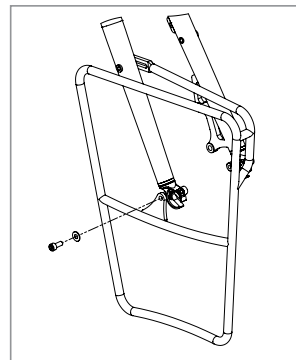

Figure 1
1. Install the drive side of the rack to the fork dropout eyelet using an M5 x 12 mm bolt. Don't fully tighten the bolt yet (fig 1).